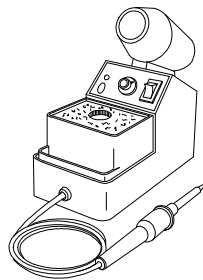

Figure 4
For the more professional users, higher quality "commercial grade" brand name soldering stations are more commonly used. These will have all the features of the hobby grade solder stations, but with better performance specifications, "grounded" tips for anti-static considerations, more tip sizes and replacement part options available, and other optional accessories. Expect to pay a minimum of \$100 (US) for an entry level commercial grade soldering station and potentially quite a lot more. Figure 4 shows one typical example of a commercial grade soldering station intended for everyday use.